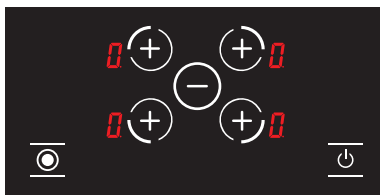

Figure 24
- The label **H** is displayed on all displays. (See Fig. 24.) The marks **H** and **H** are displayed alternately in case a hot plate is hot.